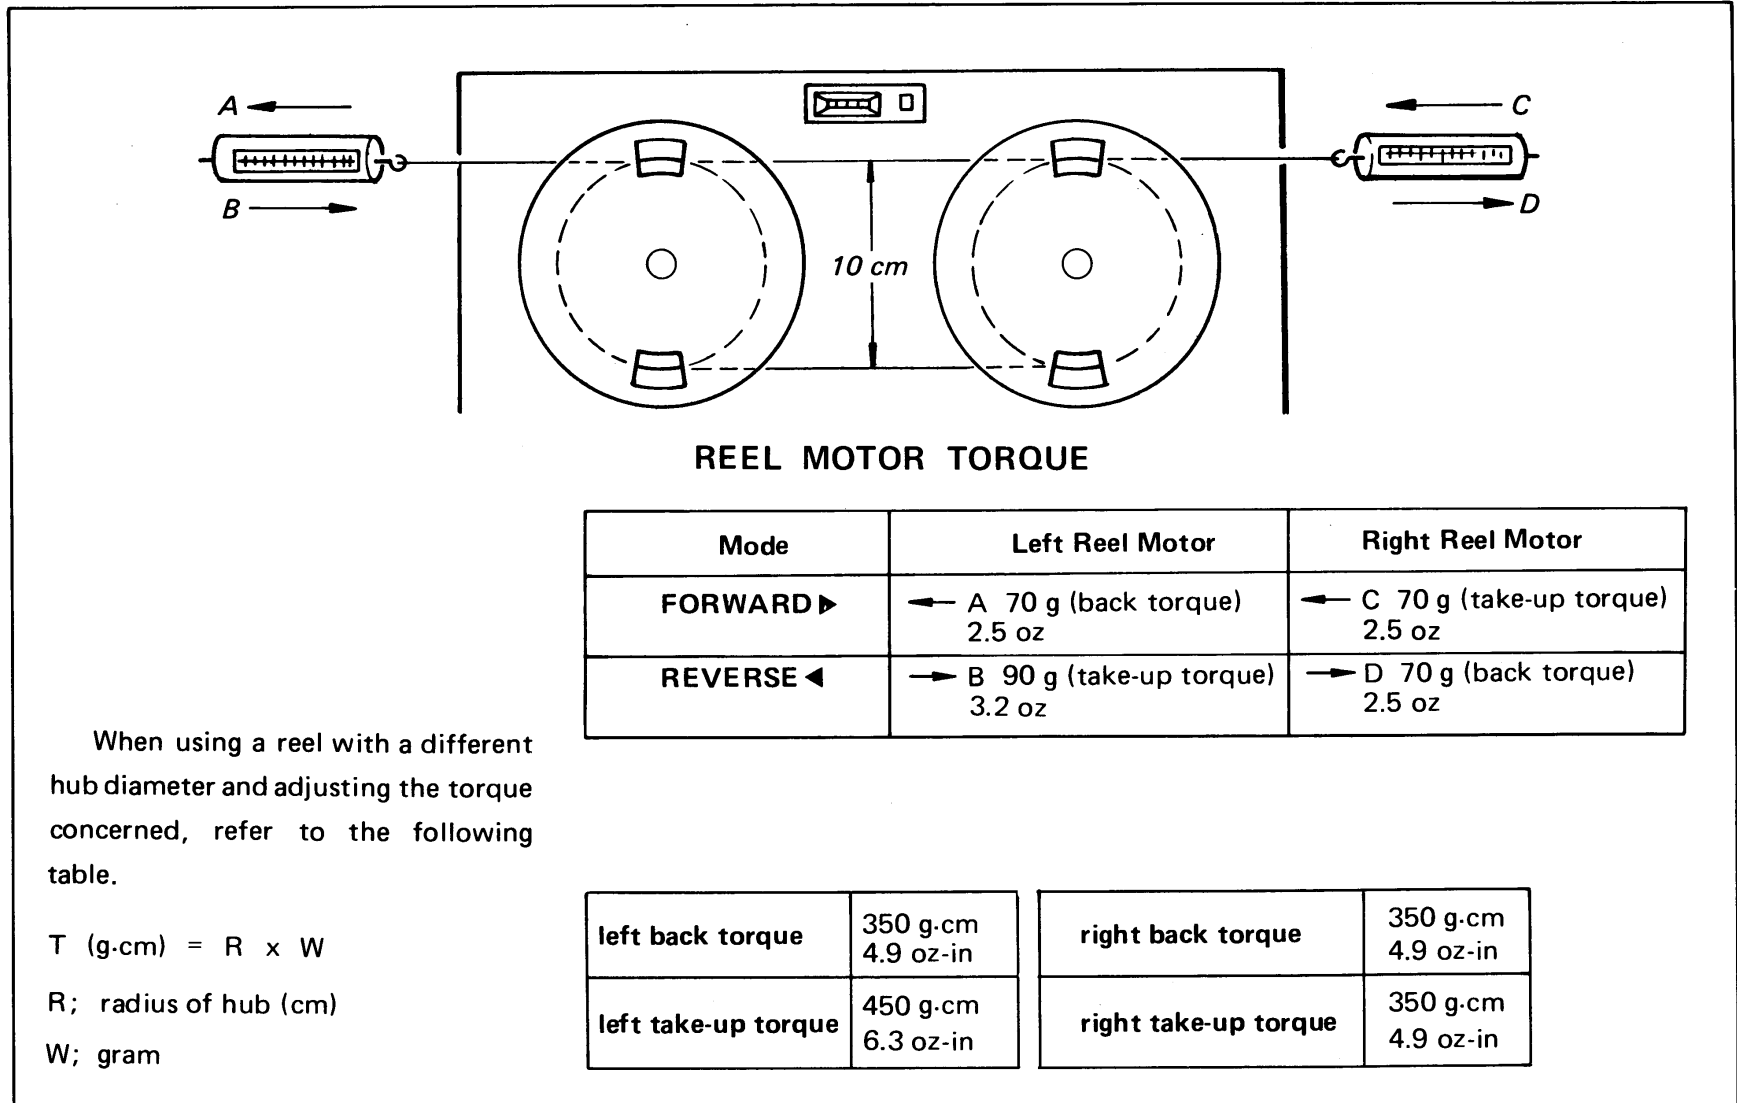

Fig. 3-2. Reel motor torque adjustment
3-2. Reel Motor Torque Adjustment (See Figs. 3-2 and 3-3)
- Set the reel hub and spring scale as shown in Fig. 3-2.
3-3. Reel Motor Torque Adjustment in Rewind Mode (See Figs. 3-2 and 3-3)
- Place the reel and spring scale on the right reel table as shown in Fig. 3-2.